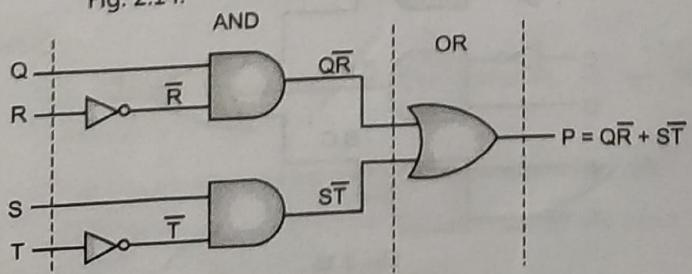

Fig. 2.14 : AND-OR logic
- This can be implemented in AND-OR as shown in Fig. 2.14.